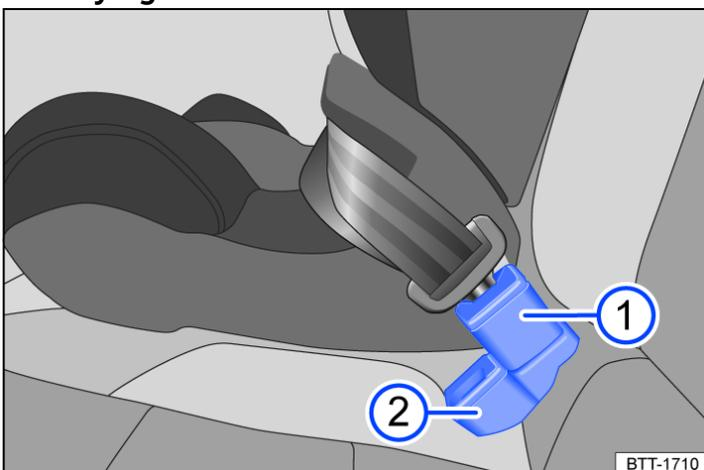

Fig. 1 Position of seat belt buckles on the rear bench seat
- Push the buckle for the middle seat → *Fig. 1* ¹ behind the buckle for the outside seat → *Fig. 1* ².
- Insert the latch plate of the seat belt of the middle seat into the buckle for the middle seat → *Fig. 1* ¹ and push it down until it audibly engages.
- To ensure the seat belt is correctly fastened do not twist the buckles → *Fig. 1*.